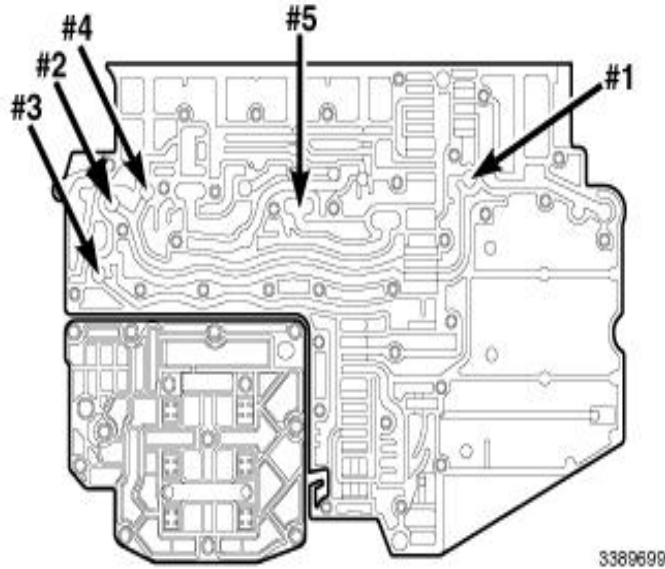

Fig. 5 Check Ball Location
17. Remove the transfer and separator plates from the valve body. Note the location of all check balls (Fig. 5).